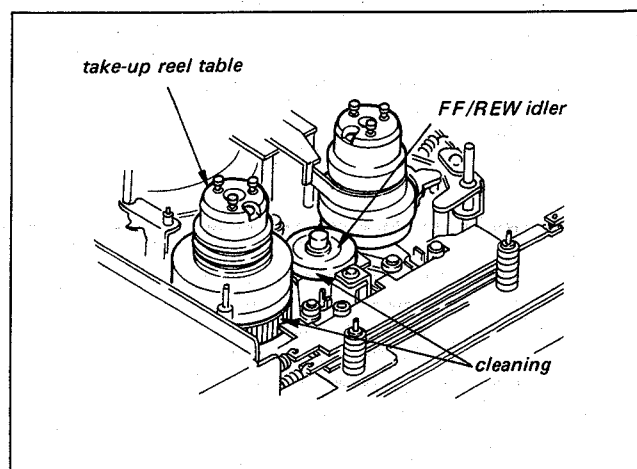

Fig. 5-10. Cleaning points
- (i) Clean surface of the FF/REW Idler, and that of the Take-up Reel-Table. See Fig. 5-10.